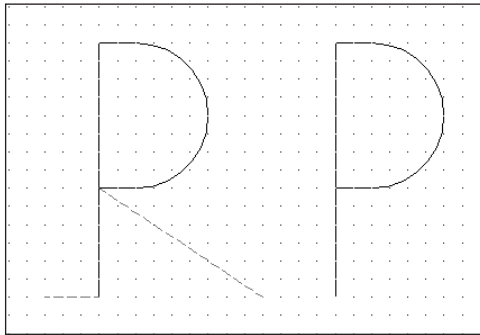

Figure 32-8: The picture and shape of the letter P
8. Save your drawing. It should look like Figure 32-8.